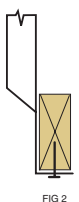

FIG 2
Tests have proved that bending the Cyclone Strap Legs as in Fig. 2 & 3 increases the design load that the strap is capable of carrying.
** With strap wrapped under support member. (Fig 2 or 3)